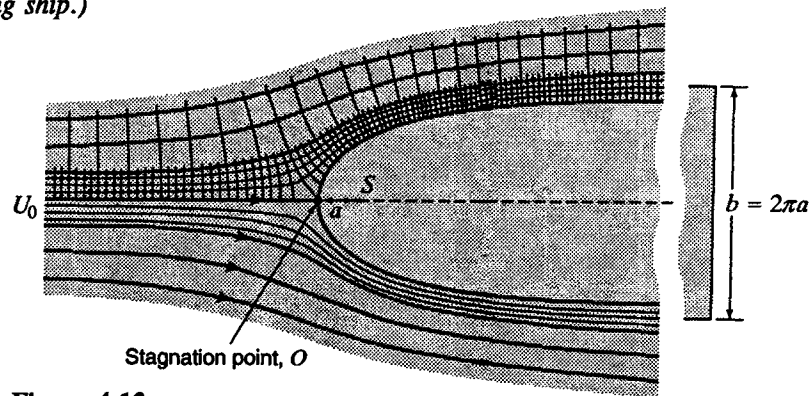

Figure 4.12
5.8 In Fig. 4.12 the velocity of the undisturbed field is 6 m/s and the velocities very near the surface at radii from the "source" making angles with the axis of 0, 60, 120, 150° are 0, 4.8, 6.5, 6.0 m/s respectively. What will be the elevation of the liquid surface relative to that of the free surface of the undisturbed field? (This problem illustrates that way in which the water surface drops alongside a bridge pier or past the side of a moving ship.)